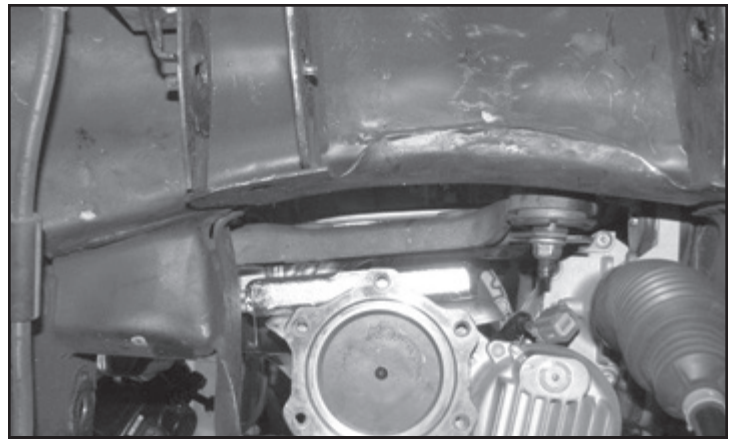

**FIGURE 19 - STEP 17**
17. Locate the FT20625 driver side diff mount and the FT20626 passenger side diff mount. Starting on the driver side, remount the diff with two M12-1.75 x 70mm bolts. **SEE FIGURE 19**